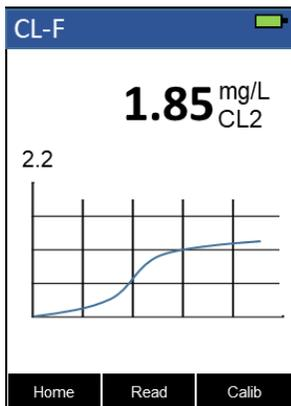

Figure 14
3. Press **Calib** () to launch the calibration screen (Figure 14).